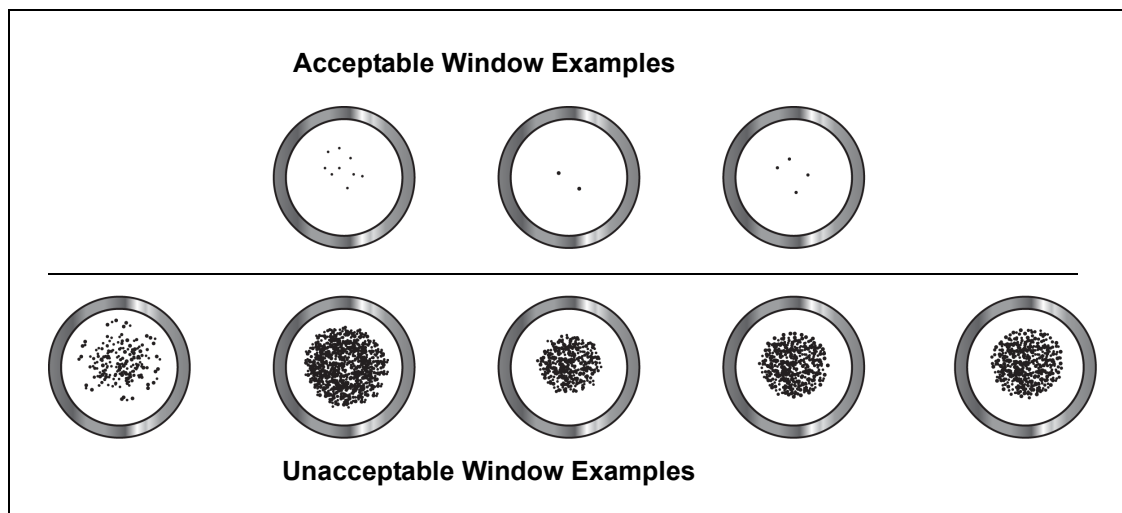

Figure 4-4: Window Acceptability Chart
- Re-inspect the window and compare to the Window Acceptability Chart (see **Figure 4-4**). If the window does not match an acceptable example in the chart, discard the window and replace it with a new one.
- Re-inspect the window and compare to the Window and Lens Acceptability Chart (see **Figure 4-4**). If the window does not match an acceptable example in the chart, discard the window and replace it with a new one.
- Re-inspect the window and compare to the Window Acceptability Chart (see **Figure 4-4**). If the window does not match an acceptable example in the chart, discard the window and replace it with a new one. Place the clean or new window back in the tube in the same fashion as done for the Lens Cartridge windows (see **“Cleaning the Lens Cartridge and Distance Gauge” on page 4-12.**)